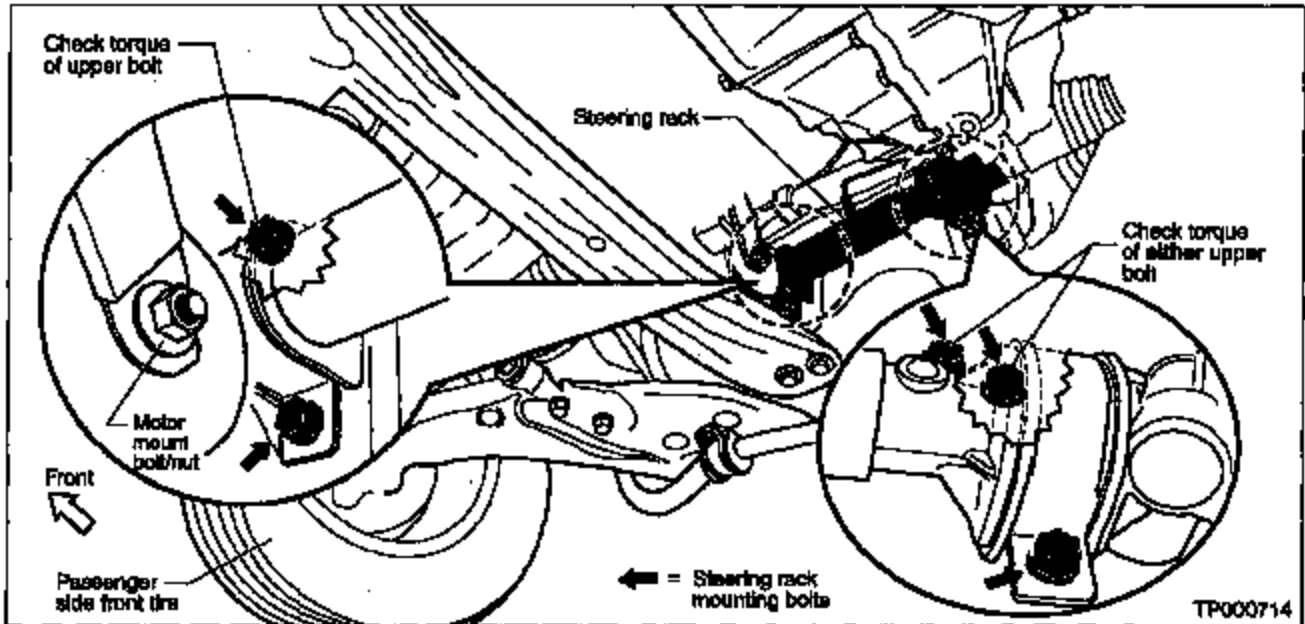

Figure 2
1. Lift the vehicle and verify that all five steering rack mounting bolts are present (see Figure 2).
2. Use a torque wrench, set at 27 Nm (2.8 kg-m, 20 ft-lbs), and attempt to tighten the upper bolt of each steering rack mounting bracket (see Figure 2).